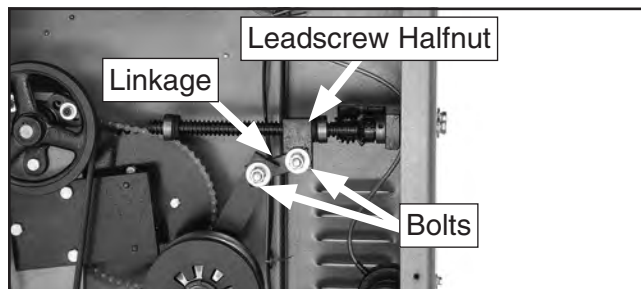

Figure 68. Linkage location and parts.
3. Slide the right-hand leadscrew collar against the support boss and tighten the set screws. If excess backlash still exists at the handwheel, you may have to readjust the bevel gear lash, replace the leadscrew half nut, or replace worn bolts or linkage (see **Figure 68**).